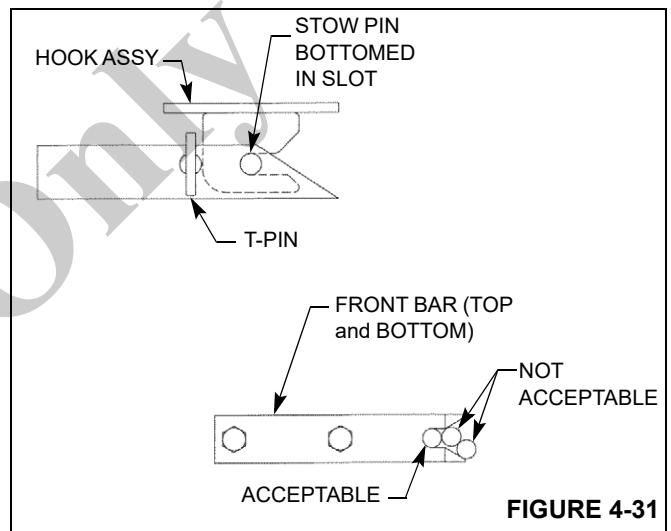

FIGURE 4-31
9. When the boom is fully retracted, the jib stow pins must be bottomed out securely in the ear assemblies, Figure 4-31.